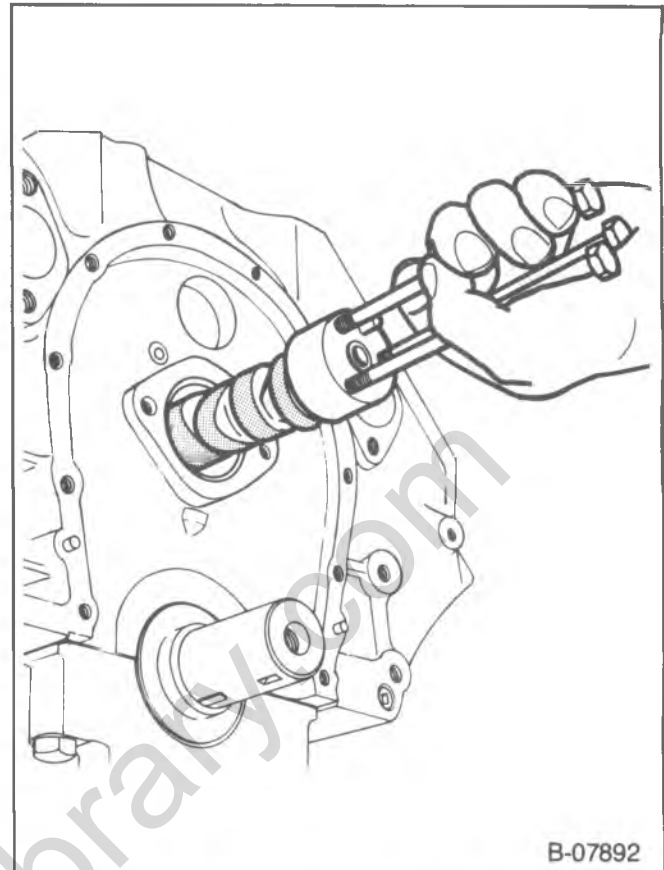

Figure 26—Replacing the Camshaft
- Install two or three $\frac{5}{16}$ -18 bolts 100–125 mm (4–5 inches) long into the camshaft threaded holes. Use these bolts to handle the camshaft (figure 26).
2. Camshaft to the engine (figure 26). Handle the camshaft carefully to prevent damage to the camshaft bearings.